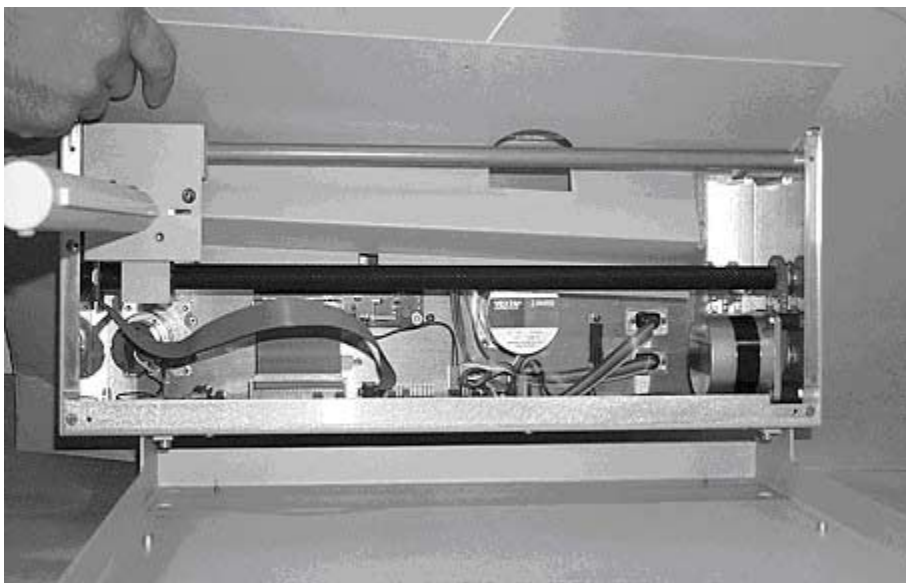

Figure 1-10. Removal of inner shield.
8. The inner shield can be removed by lifting it up while pulling forward. See Figure 1-10.